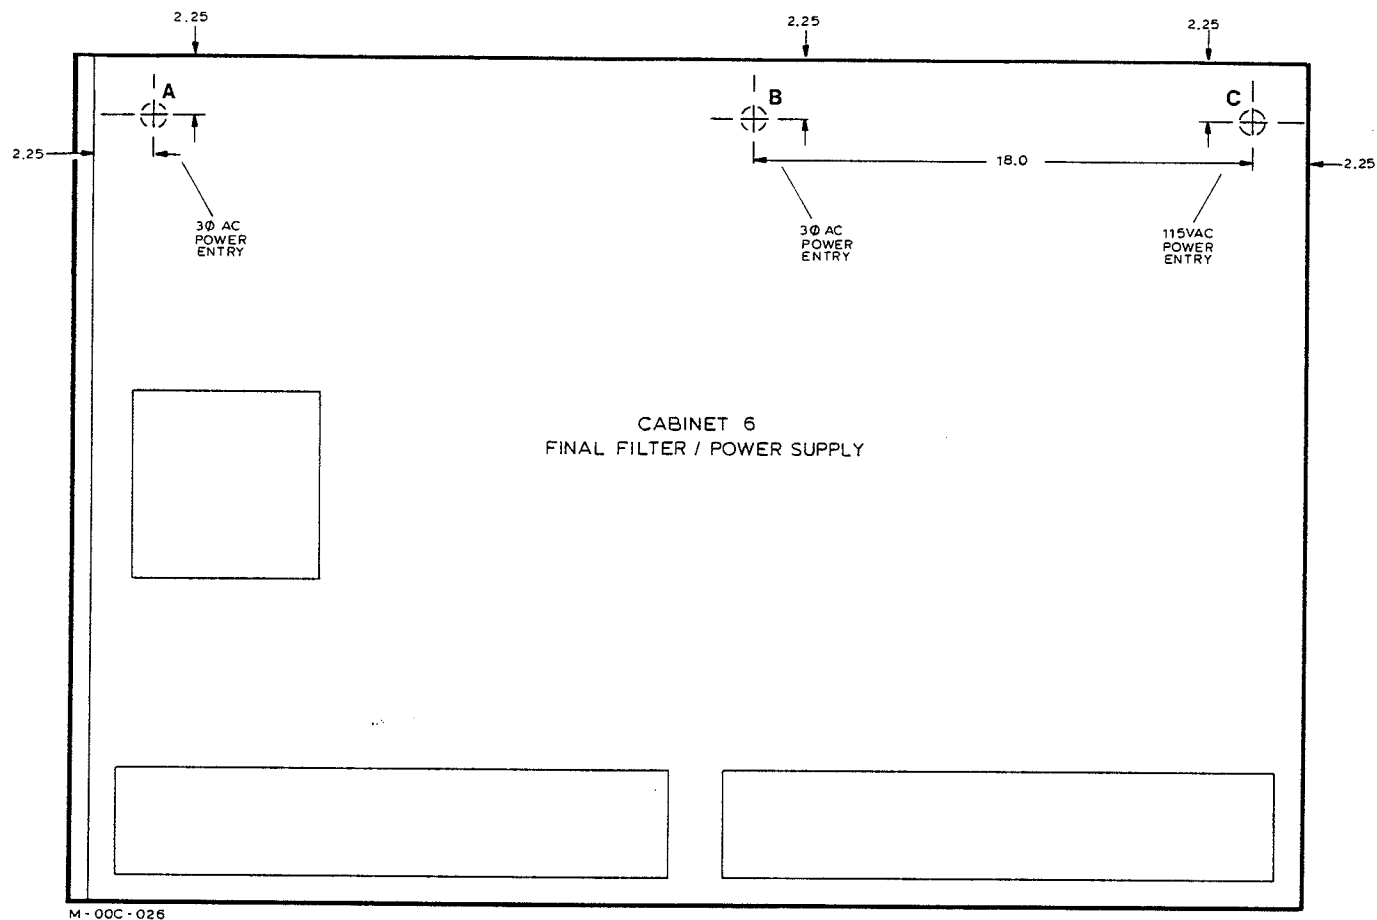

Figure 3-1 Location of Cable Entry Holes in Final Filter/Power Supply Cabinet
- (a) Determine the hole size that will accept the conduit for the three-phase ac power cables and punch two holes, identified as 'A' and 'B' in figure 3-1, using a chassis punch of the required size. Use dimensions shown in figure 3-1 for hole centers.
- (b) Determine the hole size that will accept the conduit for the 115 vac power cable and punch one hole, identified as 'C' in figure 3-1, using a chassis punch of the required size. Use dimensions shown in figure 3-1 for hole center.